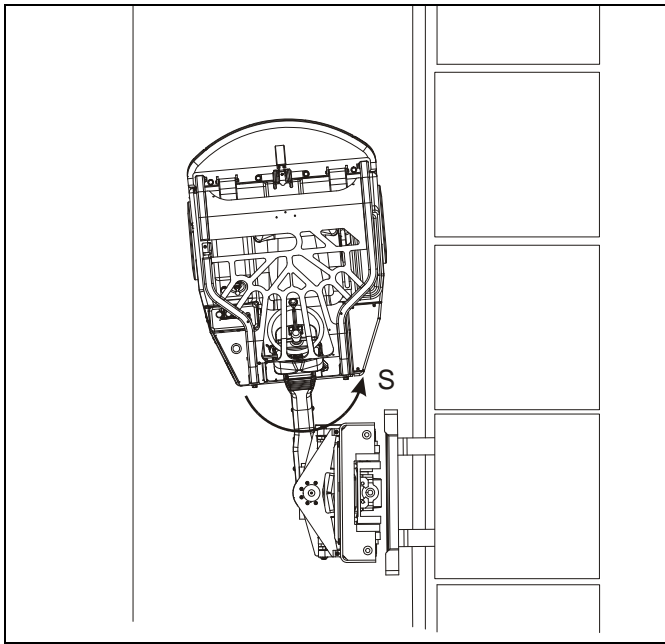

Figure 4-24: No-Load Position
When you lower the forks to the “no load” position, make sure you do not lower the forks too far. See Figure 4-24. If the forks are lowered too far beyond the “no load” position, you can damage the mast, rack, or other containers on the stack. This can cause serious injury or death.
10. Lower the forks until the load sits firmly on the rack. Continue to lower the forks until they no longer support the load (‘no load’ position). See Figure 4-24.